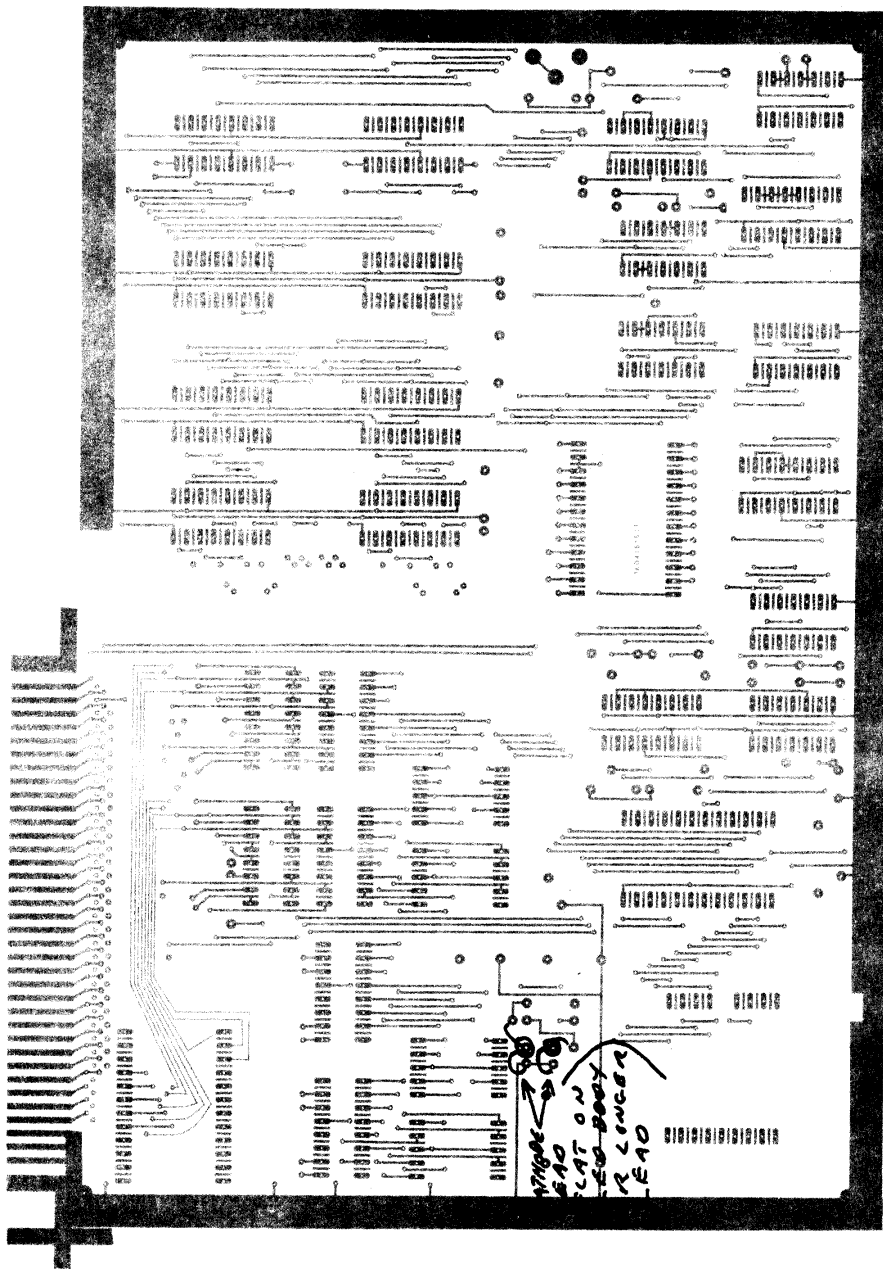

Figure 6. LED Installation
- (✓) Remove the two LEDs. These are small 1/8 inch diameter Light Emitting Diodes. Install them at the location and as indicated in Figure 6. The cathode lead can be identified by a flat portion on the base of the LED next to the cathode or by the fact that the cathode lead is longer. Support the leads at the base where they leave the body of the LED and bend them back so that the entire assembly can be inserted from the rear of the circuit board. The 1/8 inch holes in the board may have to be enlarged slightly by reaming them with a 1/8 inch drill or a craft knife. Align the leads with the holes indicated in Figure 6 and slide the entire assembly down so the rim of the LED is flush with the back surface of the board. Solder the leads from the solder side. Turn the board over and trim the leads flush with the component side.
- () Remove four FND500 seven segment displays. To protect the faces, it is recommended that a piece of masking tape be cut to size and applied before actual assembly of the devices to the board. The top of each FND500 is identified by four (4) notches. The devices should be installed in the locations marked DISP1, DISP2, DISP3, and DISP4 with these notches oriented toward the edge connector. The leads of each device are spread slightly but by inserting one row of leads partially through the board and forcing the device gently in that direction, the other row of leads should be easy to insert. Once inserted, turn the board over and solder diagonally opposite corners of each device. Now apply finger pressure to the center of each device and melt the solder to allow the device to be pressed flush to surface of the board. Solder all leads.